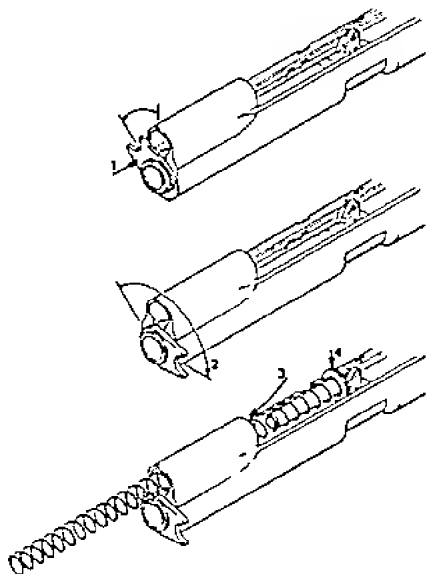

FIGURE 9—INSTALLING BARREL BUSHING AND RECOIL SPRING/S
2. (See Figure 9). Place barrel bushing over muzzle of barrel and into slide until it is flush with the face of the slide, (STEP 1). Turn bushing clockwise as far as it will go. (STEP 2).